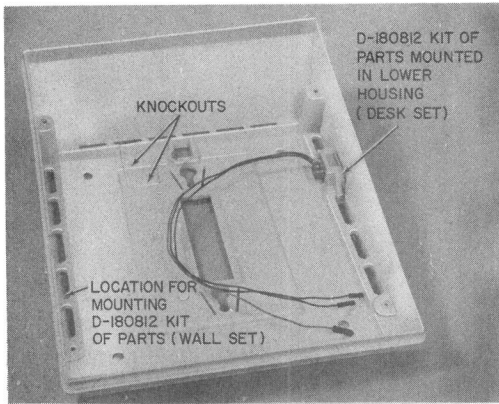

Fig. 13—Lower Housing Removed Showing Knockouts for Access by Adjunct Cords and Locations for Mounting D-180812 Kit of Parts
8.01 Knockouts are provided in the bottom rear of the lower housing (Fig. 13), to accommodate the additional cords associated with the connections of wiring options such as speakerphone, SPOKESMAN® service, etc.